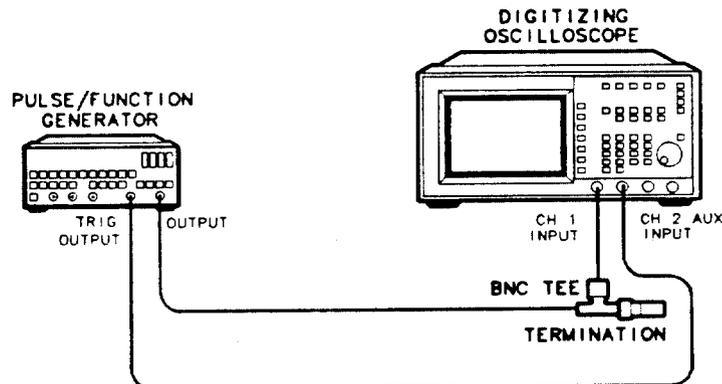

Figure 8. Equipment Calibration Setup
5. Mark the probe connected to channel 1, and disconnect both 10:1 probes from the oscilloscope. Using two BNC cables, connect the equipment as shown in Figure 8. The Pulse/Function Generator's pulse output must be terminated with 50Ω using a BNC tee and 50Ω termination.